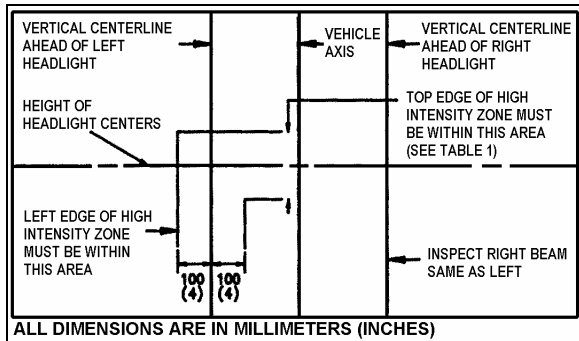

FIGURE 61: AIM INSPECTION LIMITS FOR LOWER-BEAM HEADLIGHTS 06506
- The inspection limits in the vertical direction for low-beam headlights or the low beam of a dual-beam headlight, shall be as described in Table 1. In the horizontal direction, the left edge of the high-intensity zone shall be located from 10 cm (4 in) left to 10 cm (4 in) right of the vertical centerline of the beam. The viewing screen shall be located 7.6 m (25 ft) in front of the vehicle (Fig. 61).